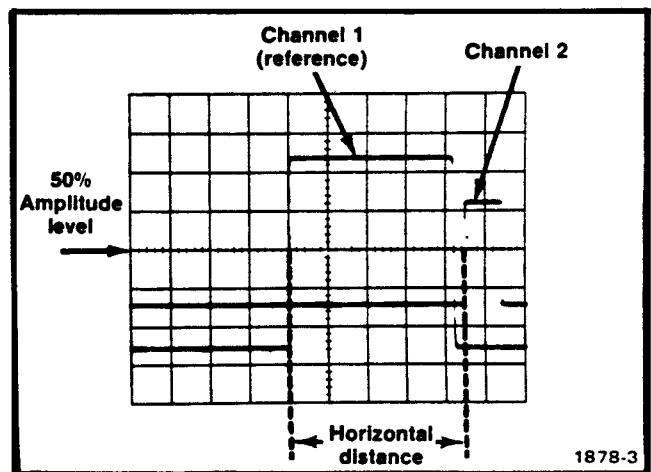

Fig. 2-7. Measuring time difference between two pulses.
10. Measure the horizontal distance between the two measurement points (see Fig. 2-7).